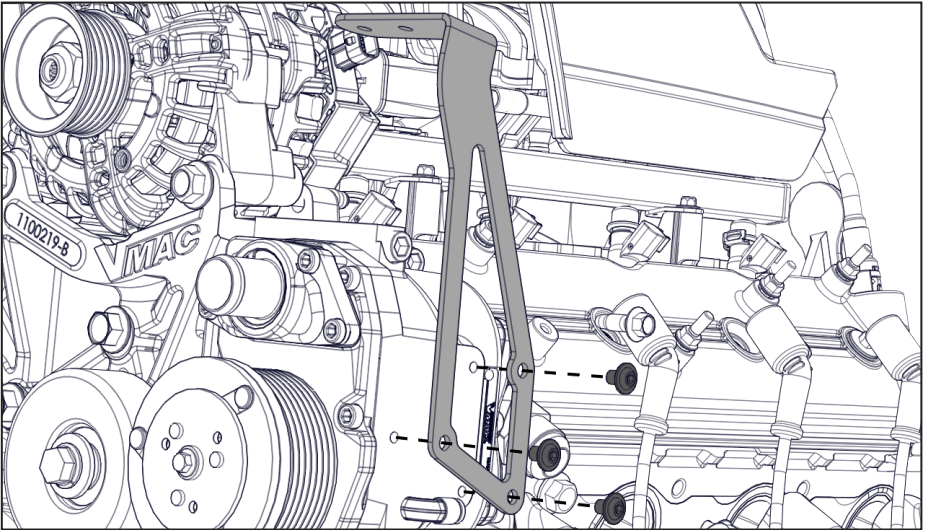

Figure 17 — Air filter bracket
- Install the air filter bracket onto the compressor (Figure 17).